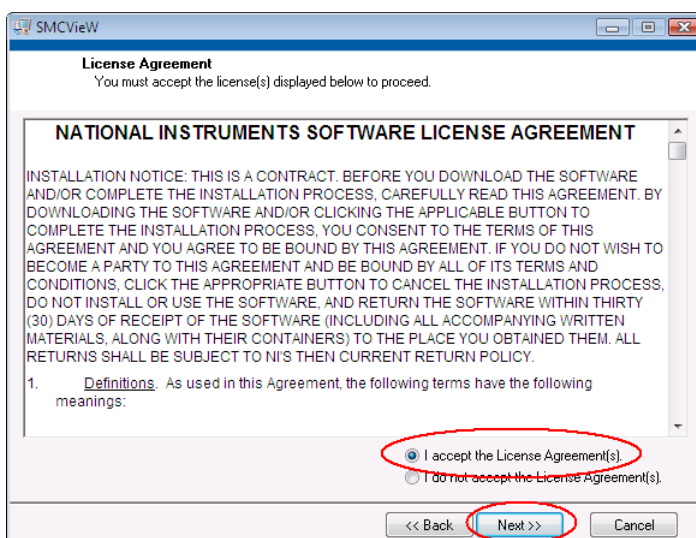

Figure 43. SMCView 4th installation screen
- Please choose “I accept...” and press the “Next>” button (see Figure 43).